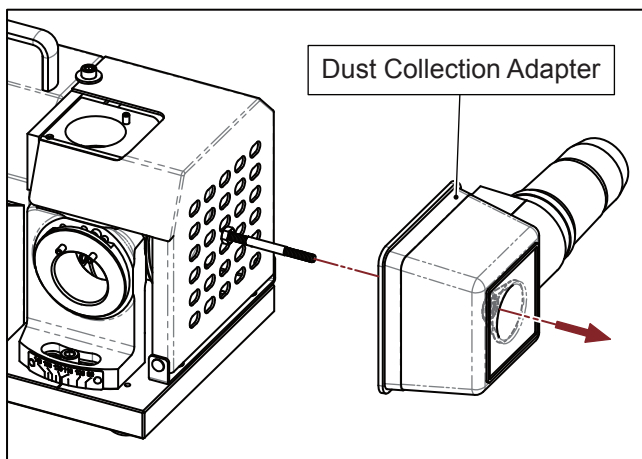

Fig. 3-2
- 2) Align the hole in the center of the dust collection adapter to threaded rod. Push the dust collection adapter to the end. (Fig. 3-2)